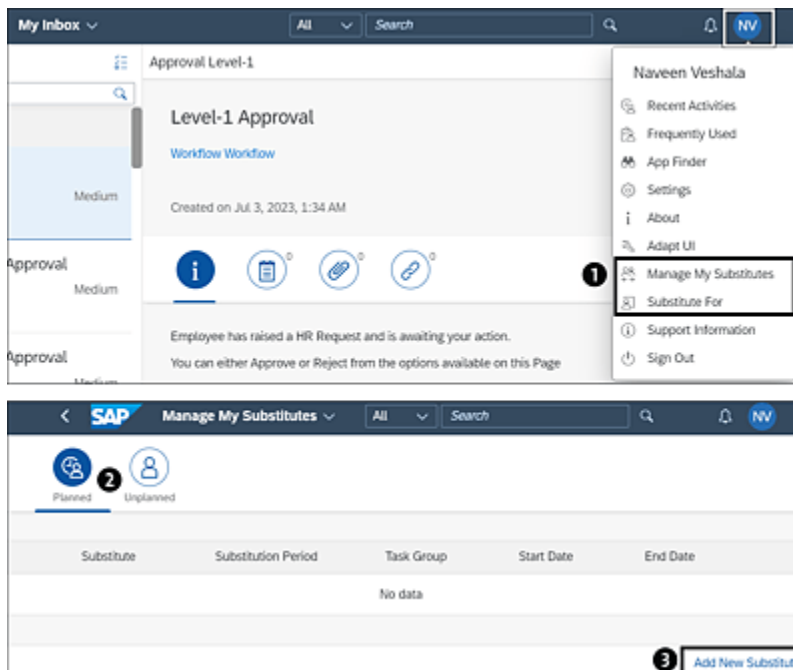

Figure 8.24 My Inbox Substitutes
1. Go to the My Inbox app, and click on the user profile icon on the top-right side of the SAP Fiori launchpad. Click on **Manage My Substitutes** ❶, as shown in Figure 8.24.
2. The **Manage My Substitutes** page will be opened. You can maintain planned or unplanned substitutes in different tabs on this page ❷.
3. Click on the **Add New Substitute** button to create a new substitute ❸.